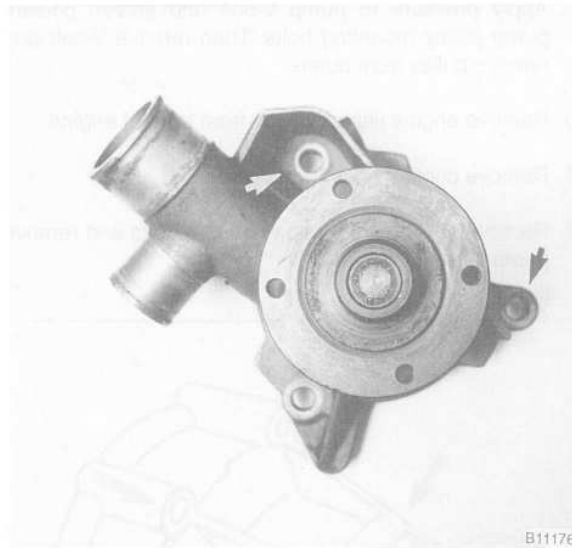

Fig. 10. When removing coolant pump, remove upper bolts first (arrows), pivot pump down and remove pin and spring. Then remove last bolt together with pump.
10. Loosen all three coolant pump mounting bolts. Remove two upper bolts. Then pivot pump down and remove camshaft drive belt tensioner spring and pin. Remove remaining mounting bolt together with pump. See Fig. 10.